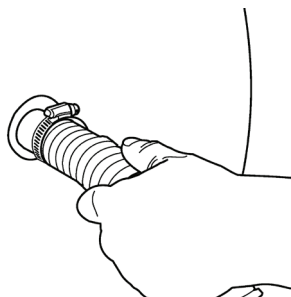

figure 17
2. Insert grey flex hose with tube connection into Blower Outlet. It should slide in easily. (figure 17).